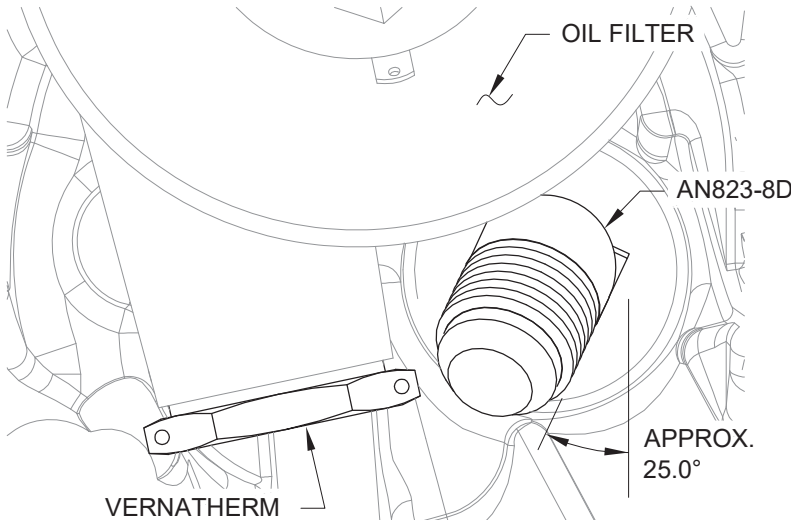

FIGURE 6: LOWER OIL PORT
Step 1: Install the lower oil port fluid fitting. Verify the FF-00017 Hose Assembly can be installed without the nut interfering with the vernatherm. See Page 43-06, Figure 6.